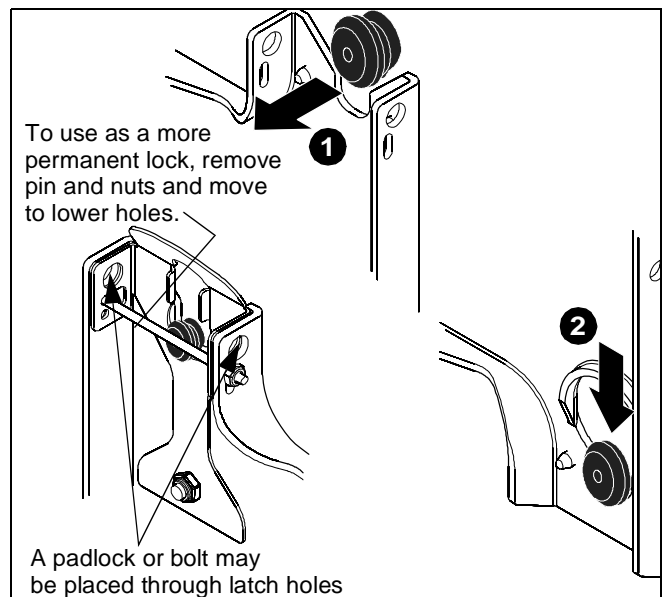

Figure 3
2. Lower display into place listening for audible "click" to ensure recessed area of mounting buttons are properly seated in lower area of mounting holes and ClickConnect mechanism has engaged. (See Figure 3)
NOTE: Holes are provided in the faceplate for use with a padlock or similar locking device, if desired. In addition, the pin and nut may be removed from the upper holes and moved to the lower holes for use as a more permanent locking device. (See Figure 3).